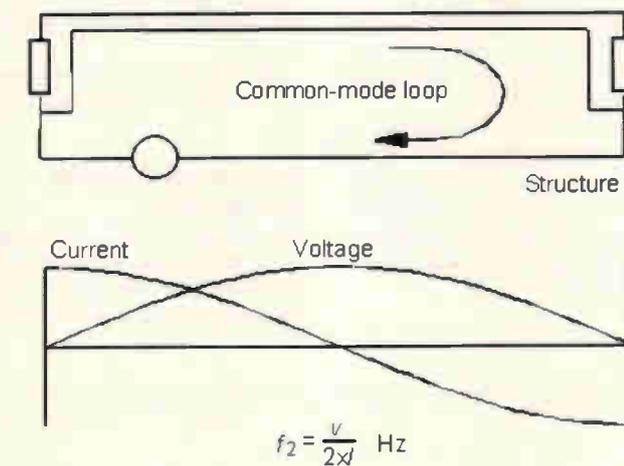

Fig. 4. Half-wave resonance response of the common-mode loop when both ends of the return conductor are grounded.
**Grounding.** Response of the common-mode loop when both ends of the return conductor are grounded is shown in Fig. 4. Here, the half-wavelength of the interference is equal to the length of the line. In this situation, there is a high current at both ends of the cable, and again, a high level of EMI.